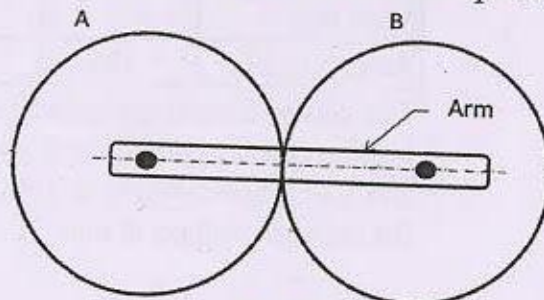

Fig. 2b
**b)** Two spur gears A and B of an epicyclic gear train as shown in fig. 2b have 24 and 30 teeth respectively. The arm rotates at 100 rpm in the clockwise direction. Find speed of gear B on its own axis, when the gear A is fixed. If instead of being fixed, the wheel A rotates at 200 rpm in the counter clockwise direction, what will be the speed of B? [8]